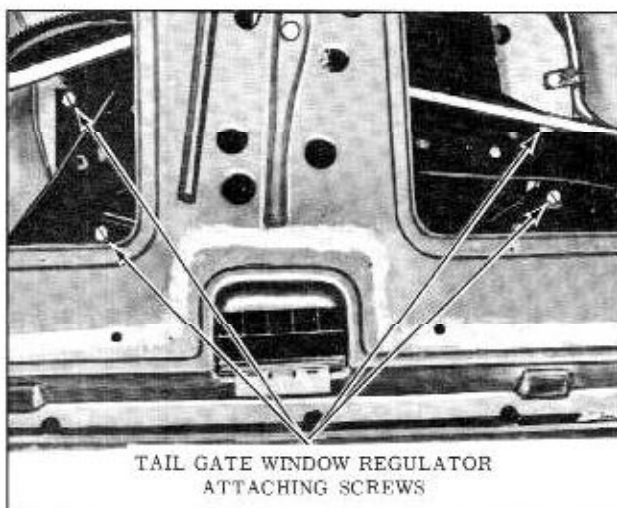

Fig. 17-190 Regulator Removal
5. Remove regulator attaching screws. (Fig. 17-190) Remove regulator assembly through access hole.